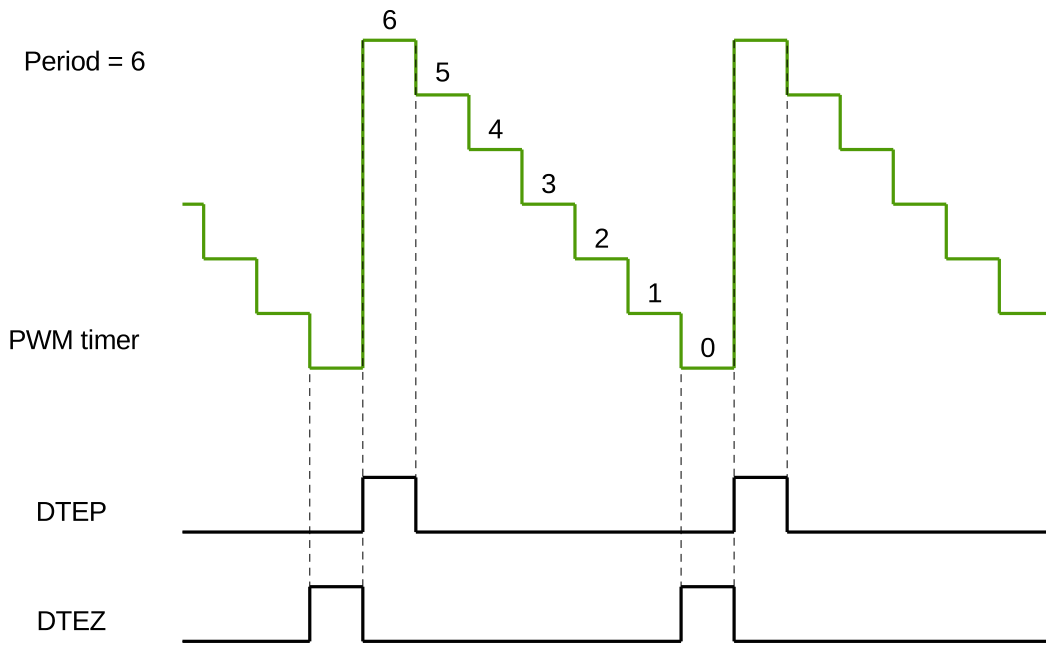

Figure 105: DTEP and DTEZ Generation in Count-Down Mode
2. DTEP and DTEZ do not happen simultaneously. When the PWM timer is in count-down mode, DTEZ will always happen one cycle earlier than DTEP, as demonstrated in Figure 105, so their action on PWM signals will not interrupt each other. When the PWM timer is in count-up-down mode, DTEZ will not occur.